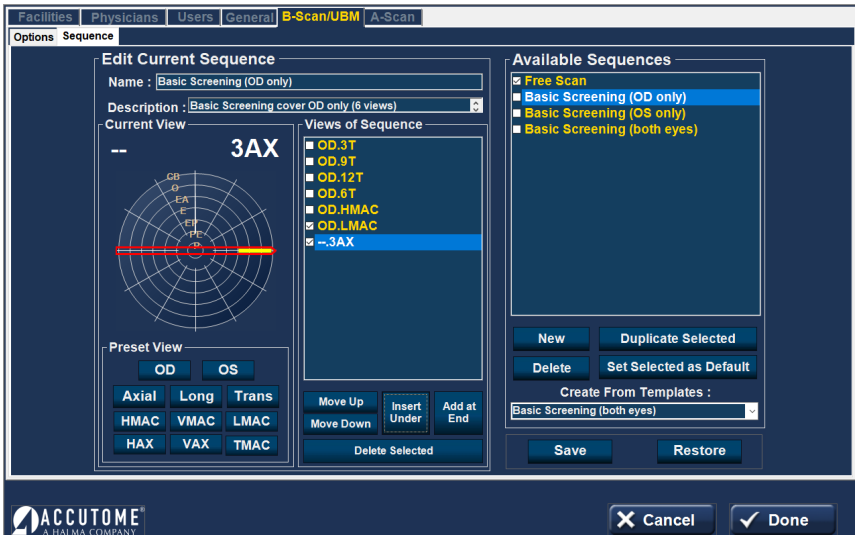

Figure 7.5 - Setup: B-Scan/UBM – Sequence – Change Probe Orientation
- When you arrive at the appropriate position for the probe in the newly added sequence scan, release the position indicator. The new position will be reflected in the label for the new sequence scan as shown in the figure 7.5. The indicator stopped at 3:00, and the label for the scan was changed from OD.Scan to OD.3AX.
A copy of the sequence will be displayed in the list of Available Sequences with "[1]" beside the name, as shown in figure 7.5. You may then change any information for the new sequence, as necessary. If you make more than one copy, the number will increase with each copy.